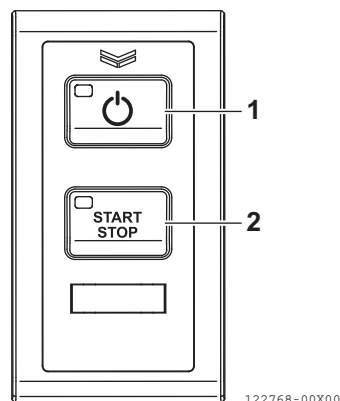

Figure 35
4. Press the Power switch on the switch panel of the selected station (**Figure 35, (1)**).
9. Press the Engine START/STOP switch (**Figure 35, (2)**) and power on the starter.